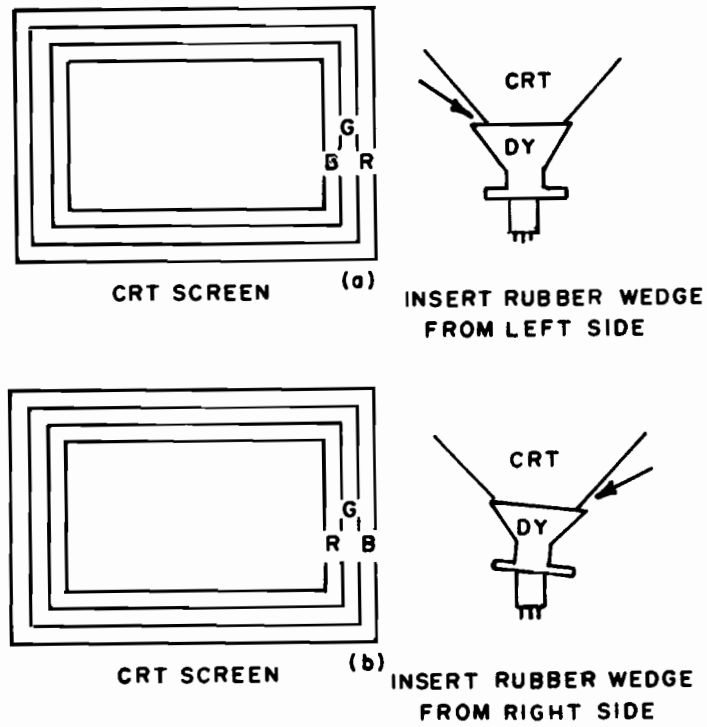

Figure 9 Adjustment for Parallelism During Dynamic Convergence
- 4.4 Tilt the angle of the yoke sideways to adjust the parallel convergence of both horizontal and vertical lines at the edges of the screen. See Figure 9 (a) and (b).